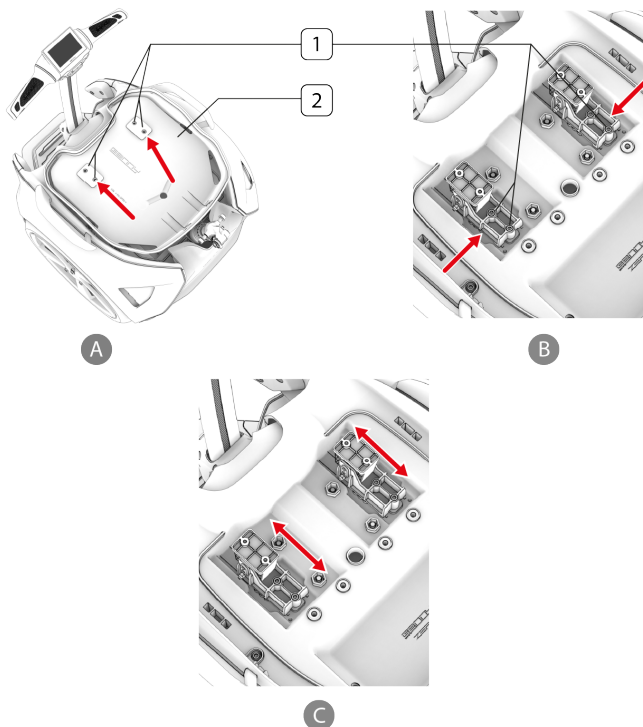

Figure 5.3 - Longitudinal seat adjustment
Longitudinal adjustment (Figure 5.3)
4. Move the hinges longitudinally into one of the three available adjustment positions and tighten all fixing screws (Figure 5.3 C).